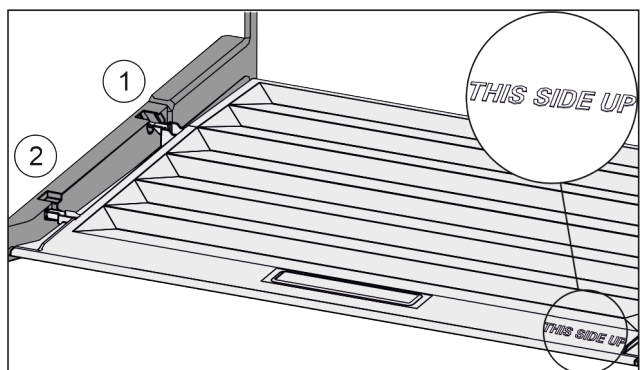

Fig. 143
- ▶ Insert the lip of the cover over the opening of the rear bracket *Fig. 143 (1)* and click into place *Fig. 143 (2)*.